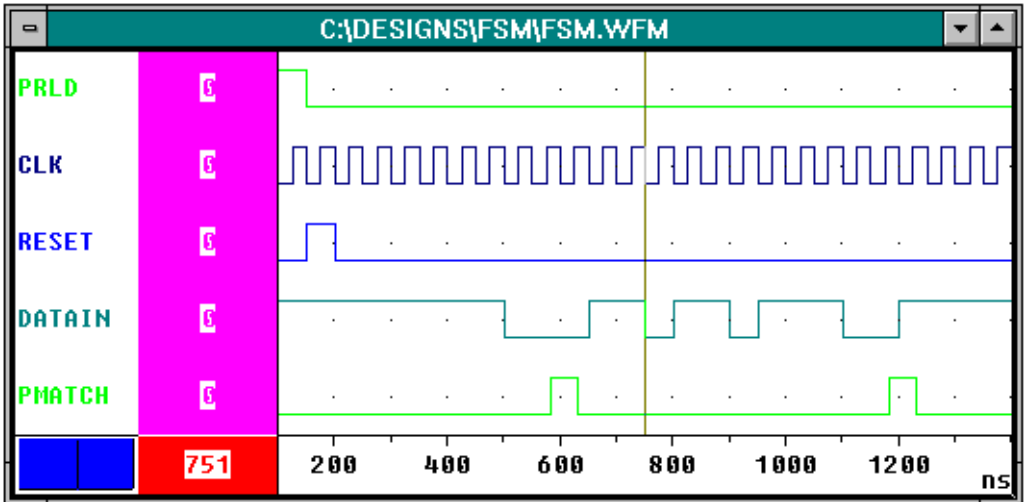

Figure 2-22 Simulation Waveforms for the FSM Design
6. Select the **PROwave** button in PROflow. The PROwave Setup dialog box appears as in Figure 2-22: